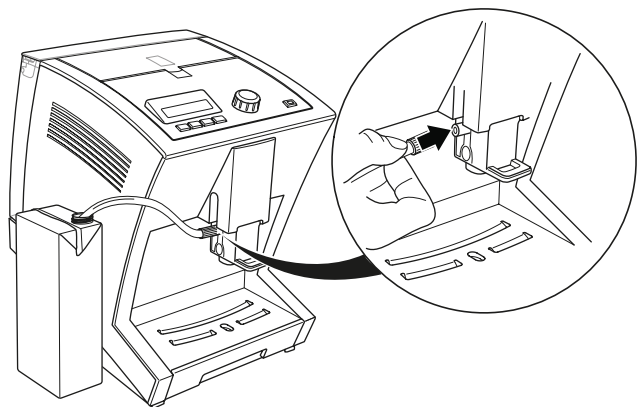

Fig. 6: Connecting the milk tube
1. Plug the milk tube onto the connection on the coffee-milk dispenser and hang the other end of the tube in the milk container (Fig. 6).